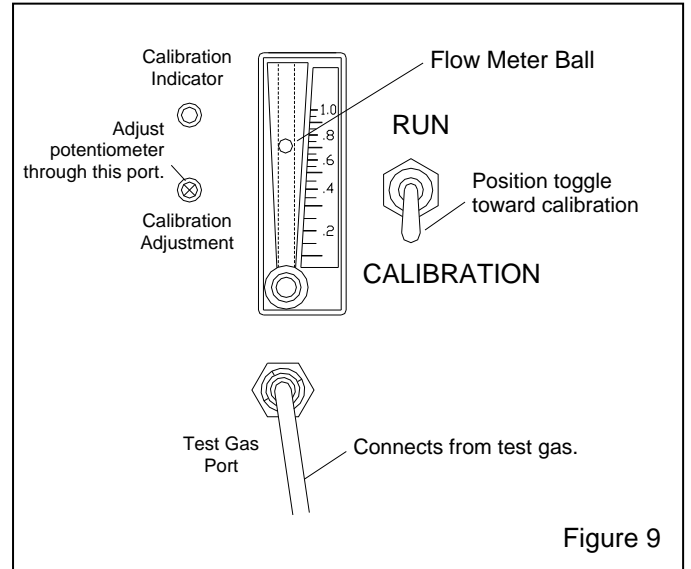

Figure 9
4.5 Prepare Monitor for Calibration – Figure 9
4.6.3 With the flow meter vertical, refer to Figure 9 and slowly open the flow-control knob to introduce test gas. Test gas is entering the unit when the flow meter ball rises. If the ball does not rise when the calibration valve is opened, the test gas cylinder may be empty.